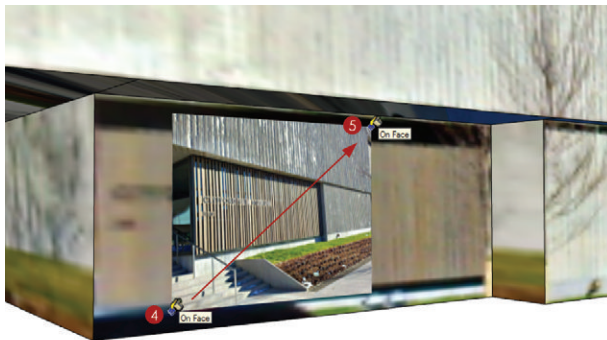

Figure 16.18 Click directly on the surface. Avoid using edges and points when you initially place an image as a texture.
4. Click once directly on the surface to place the image (Figure 16.18).